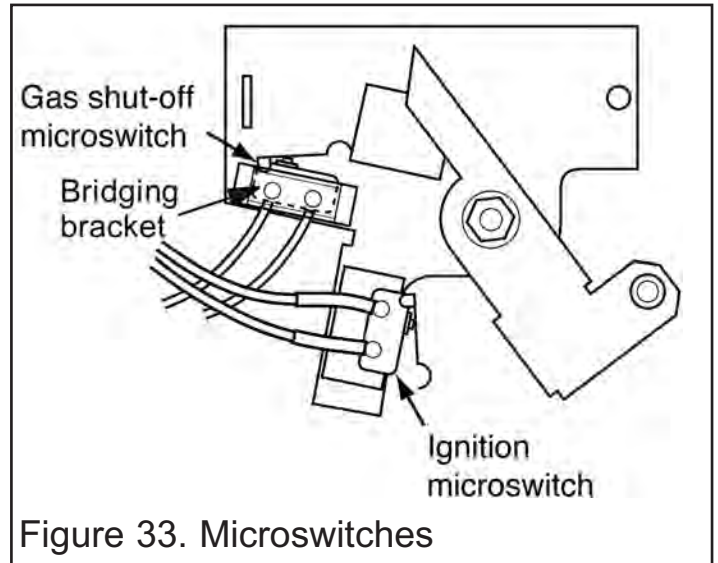

Figure 33. Microswitches
16.2 To remove the ignition microswitch. (See figure 33).
2. Disconnect the leads from the ignition microswitch (The lower of the two microswitches - See figure 33).
16.3 To remove the gas shut-off microswitch. (See figures 33 & 34).
4. Detach the bridging bracket, microswitch assembly by removing two screws (See figure 33).